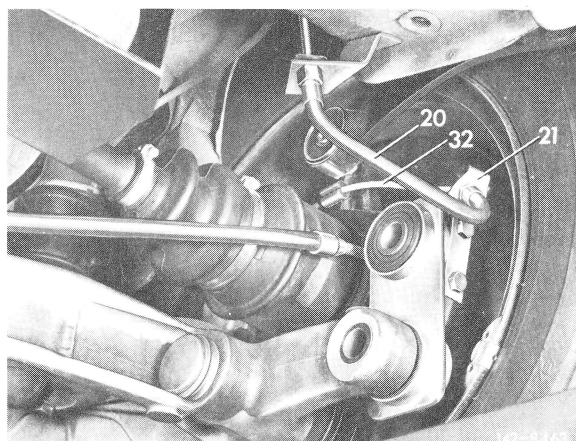

Fig. 3
1 On vehicles with diagonal swing axle with starting torque compensation, unscrew hex. screws for attaching brake hose holder (21) from caliper bracket (Fig. 3).